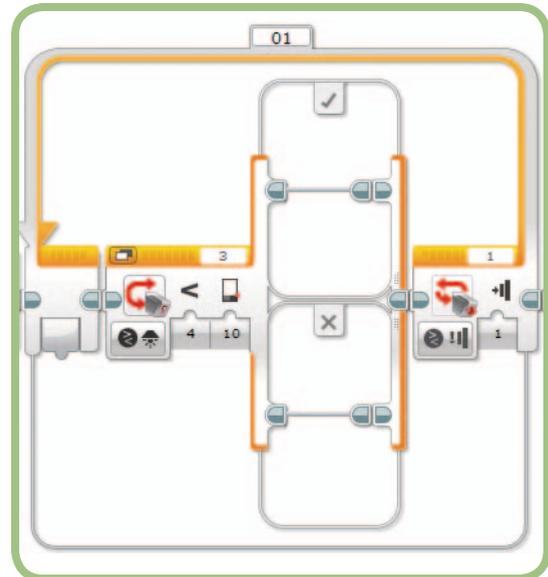

Figure 6-25: Adding the Switch block
9. Set the Threshold value to **10**. You can adjust this value after some testing if it's too high or too low. The Loop block should look like Figure 6-25.